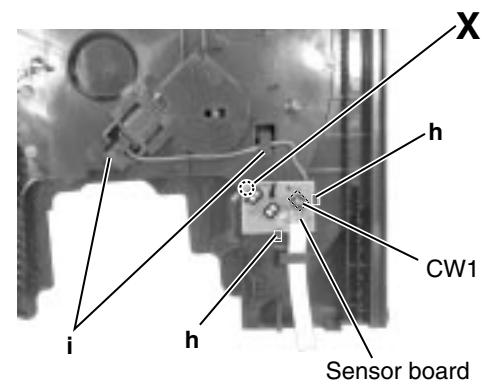

Fig.30
■Removing the sensor board / the turn table motor assembly (See Fig.30 to 32)